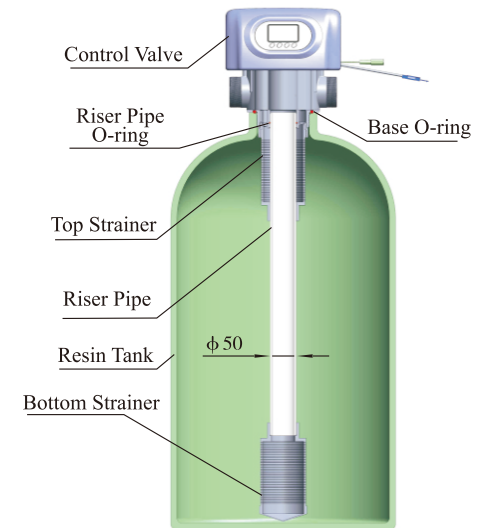

Figure 1-1
- ①The softener should be located close to drain.
- ②Ensure the unit is installed in enough space for operating and maintenance.
- ③Brine tank need to be close to softener.
- ④The unit should be kept away from the heater, and not be exposed outdoor. Sunshine or rain will cause the system damage.
- ⑤Please avoid installing the system in one acid/alkaline, magnetic or strong vibration circumstance, because above factors will cause the system disorder.
- ⑥Do not install the filter or softener, drain pipeline in circumstance which temperature may drop below 5°C, or above 45°C.
- ⑦Install the system in the place where with the minimum loss in case of water leaking.
①Install control valve
a. As the Figure 1-1 shows, select the riser pipe with 50mmOD, take GB standard riser pipe as an example glue the riser pipe to the bottom strainer and put it into the mineral tank, cut off the exceeding tube out of tank top opening and round it. Plug the riser tube in case of mineral entering.